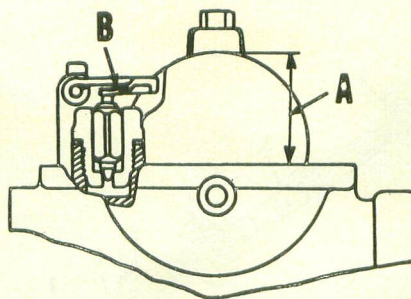
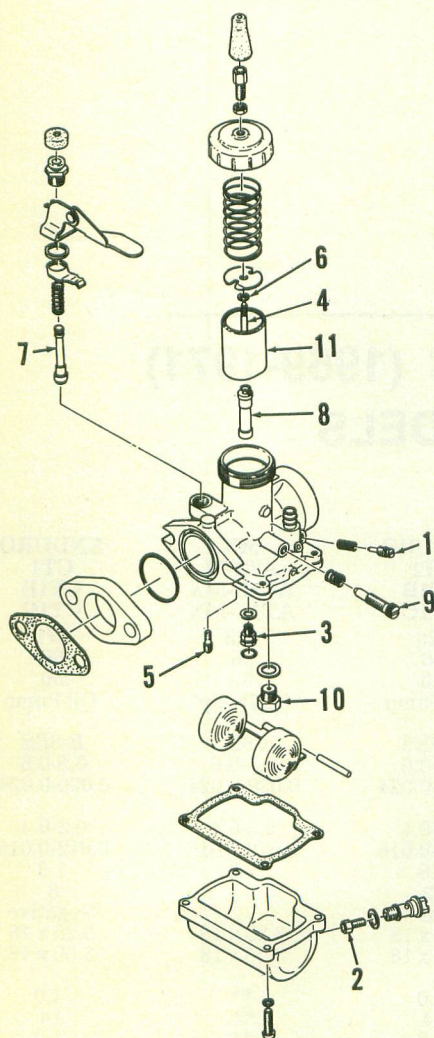

Fig. Y10-3—Float level (A) is adjusted by bending tang (B).
Fig. Y10-1—Exploded view of typical Mikuni carburetor. Unit used on 90cc Enduro models has flange type mount but is otherwise similar in construction.
CARBURETOR. Mikuni sliding valve carburetors are used on all models. Refer to Fig. Y10-1 for exploded view of typical carburetor assembly. Idle mixture screw (1) should be 1¼ turns out on HT1 and HT1B; 1½ turns out on all other models. Float level is adjusted by bending tang (B—Fig. Y10-3) and is measured from top of float to gasket surface of float bowl. Float level should be 22.5mm (0.88 in.) on HT1 and HT1B. Float level on all